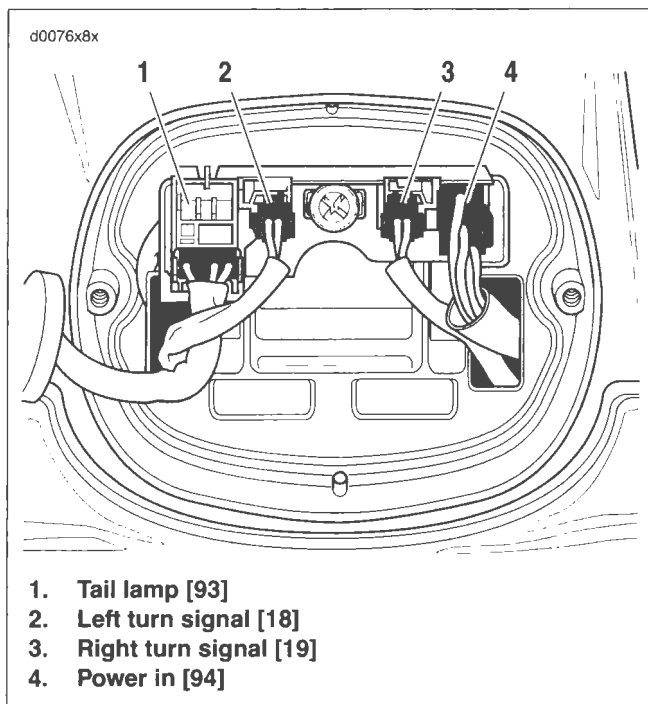

Figure 8-40. Wire Location at Connectors
7. See Figure 8-40. Install connectors to circuit board.